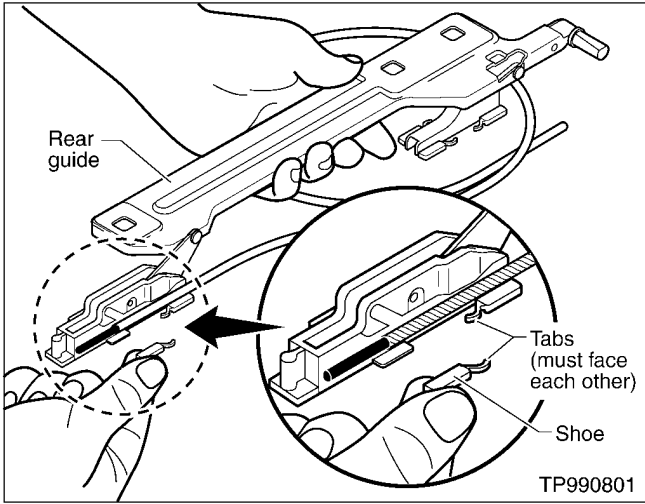

Figure 13
14. Install the new white plastic shoes on the new rear guide assemblies (see Figure 13).
NOTE: Install the white plastic shoes so the tabs face each other (see Figure 13).